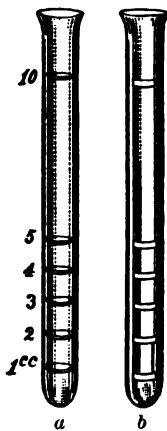

FIG. 13.
**25.** Fasten a burette upon a stand and fill it with distilled water; see that the tube below the stop-cock is completely filled. Allow 1 cc. of water to flow into a 6-inch test-tube and fasten a narrow strip of mucilage paper even with the lower edge of the meniscus. Run in another cubic centimeter, and mark it in the same way. Thus mark each up to five; indicate also 10 cc. (See Fig. 13.) Now pour out the water, and with a sharp file make a neat scratch just above each strip of paper. Now remove the paper. Make a drawing of the graduated tube, full size,